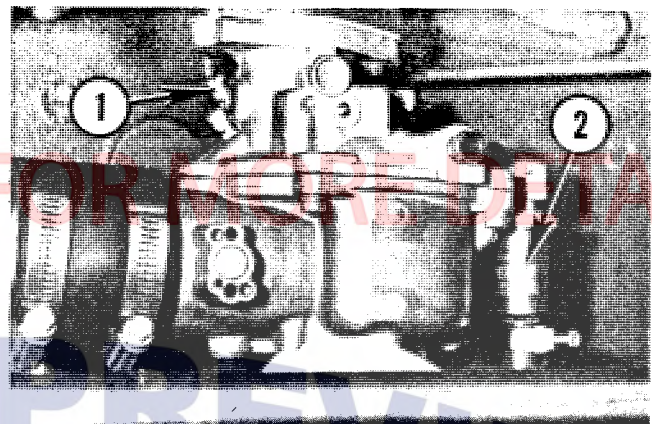

Fig. 41A — Carburetor Adjustment
1. Turn out idle speed screw, No. 1, Fig. 41A, until idle speed is 450-500 rpm.
3. Readjust idle speed screw, No. 1, Fig. 41A, to obtain engine idle speed of 750 ± 25 rpm.